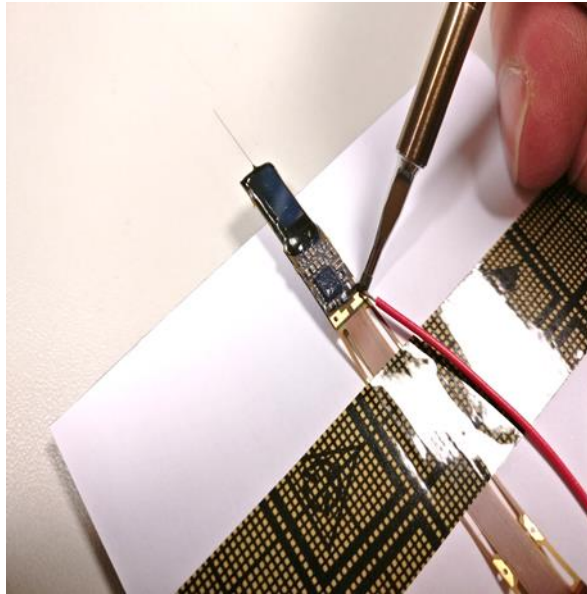

Figure 42: Placing the solder tip in the corner between wire and pad.
- Insert the wire through the hole in the solder pad. Place the solder iron at the corner between the pad and the GND/REF wire. (Figure 42)